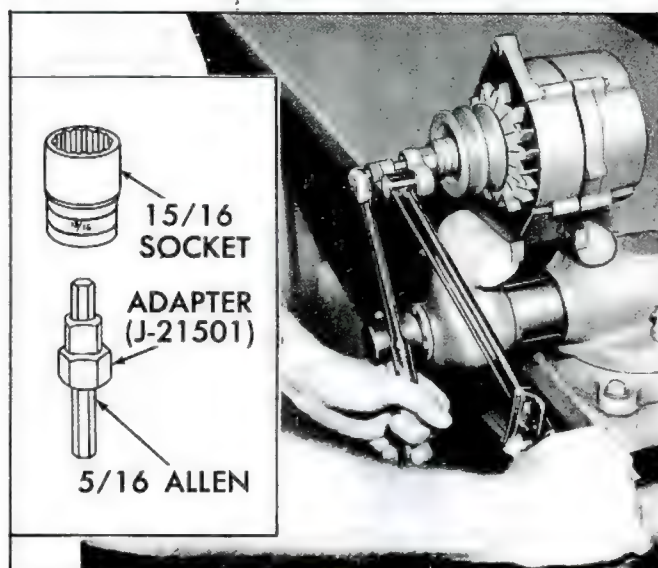

Fig. 15c—Torquing Pulley Nut
4. Using a torque wrench with a crow-foot adapter (instead of a box wrench), torque the nut 50 to 60 ft. lbs. (fig. 15c).